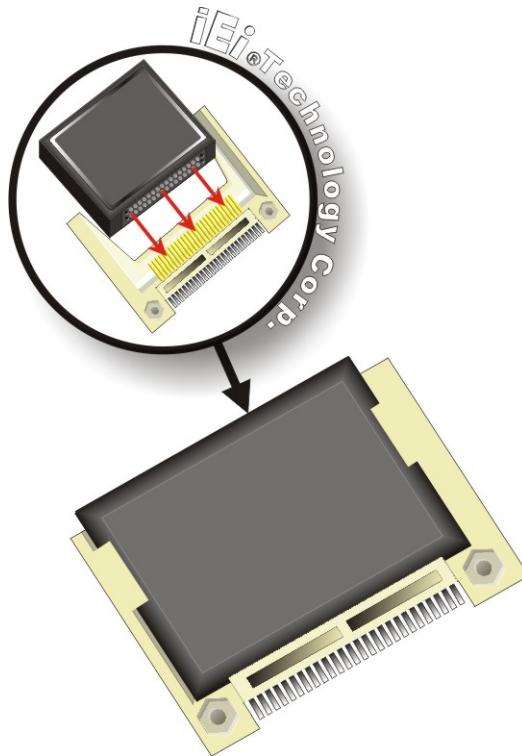

Figure 4-16: CompactFlash® Card Installation
Step 3: Insert the CF card. Push until the CompactFlash® card is firmly seated in the slot. See Figure 4-16.